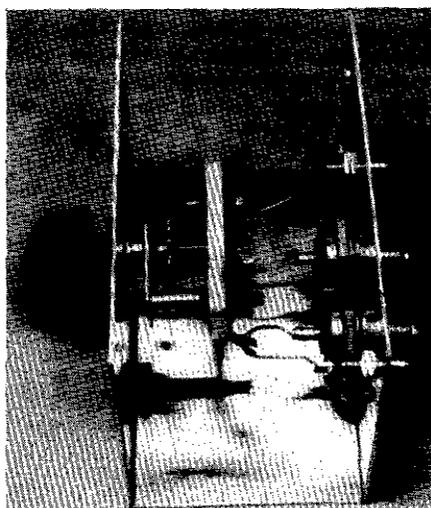

Fig 2—A photo of KØKK's home-built switching arrangement.
(as shown in Fig 2). If you have a narrow-band amplifier, add a standard antenna switch to select either the dummy load or your Transmatch.—Dick Lamb, KØKK, Iowa City, Iowa
*Construction and adjustment.* The timer (see Fig 2) can be built on a small piece of
Fig 2—John Conklin’s 10-minute ID timer is accurate to within 1 second per timing cycle. Use your TR relay to connect the circuit to its dc supply on transmit; the circuit resets automatically. All of the timer’s resistors can be 5% or 10%-tolerance units. A standard (non-blinking) LED may be substituted for DS1; if you use a standard LED, wire a 220-ohm resistor in series with it for current limiting. If you use a buzzer, select one that draws less than 100 mA.